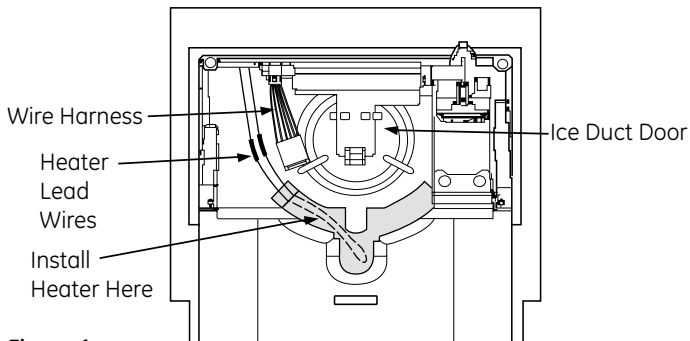

Figure 1
2. The heater will be applied to the recessed area below the ice duct door. **See Figure 1.** Clean this area as thoroughly as possible.
3. Peel the paper backing off of the heater and apply it in the recessed area below the ice duct door. **See Figure 1.** Press firmly over the entire surface to ensure adequate adhesion, forming it around the dispenser tube as necessary.
4. Route the heater lead wires to the dispenser housing to the left of the ice duct door, as shown in **Figure 1**, to prevent the wires from interfering with the duct door.